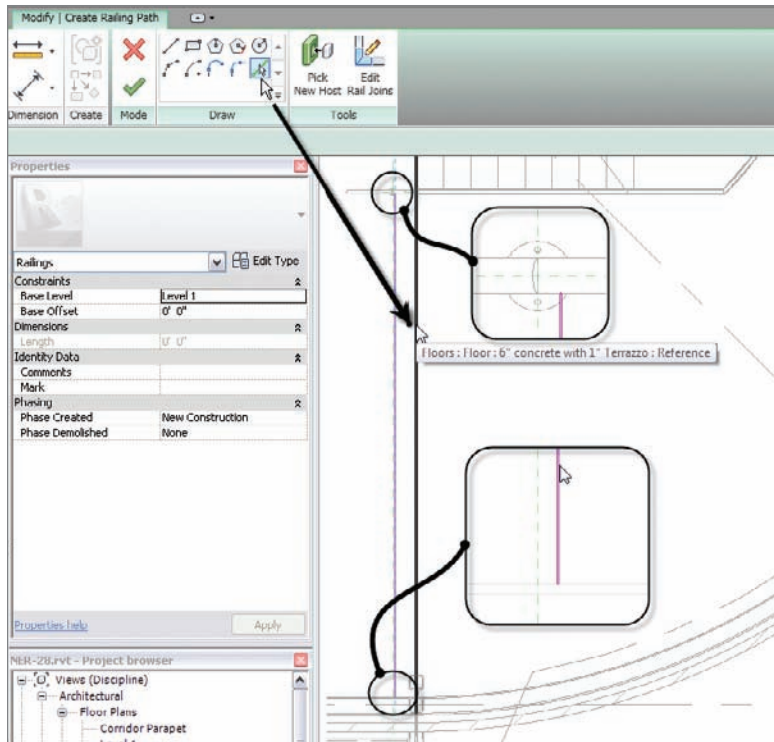

FIGURE 10.24 Adding the first railing segment
6. Pick the front edge of the floor, as shown in Figure 10.24. The sketch line should now be set back from the edge of the landing with an 8 1/2" clearance.
7. The magenta line is going to be way too long. Select it and drag the grip down to the point shown in Figure 10.24.
8. At the bottom of the railing, select the grip and drag it out of the wall as well. Once you are done, click the Finish Edit Mode button (see Figure 10.24).